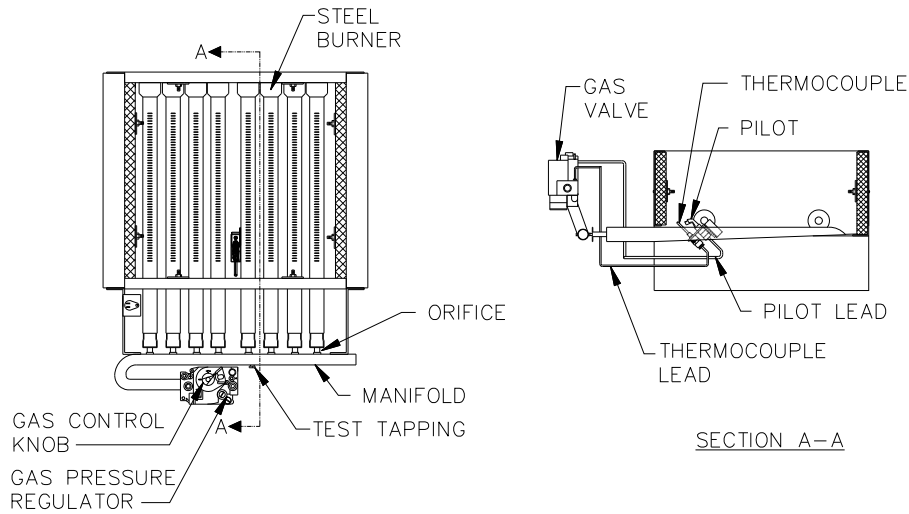

Figure 7.1: Gas Valve, Manifold and Burner Assembly - Standing Pilot (Continuous Ignition)
13. The gas manifold and control assembly are made of gas-tight, completely factory assembled and installed components of the base assembly. See Figure 7.1 and 7.2.